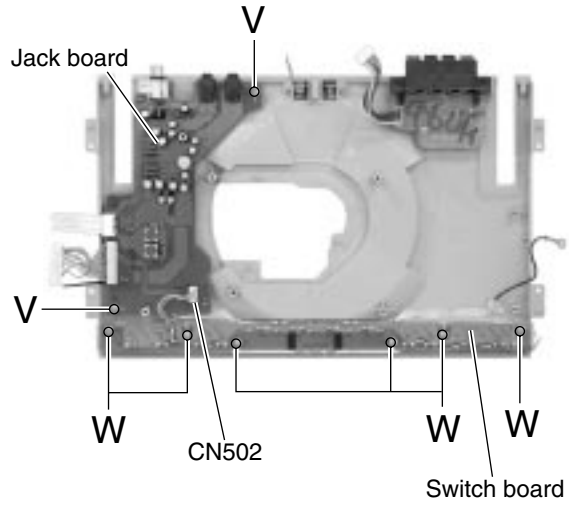

Fig.39
**■Removing the jack board (See Fig.39)**
**■Removing the switch board (See Fig.39)**